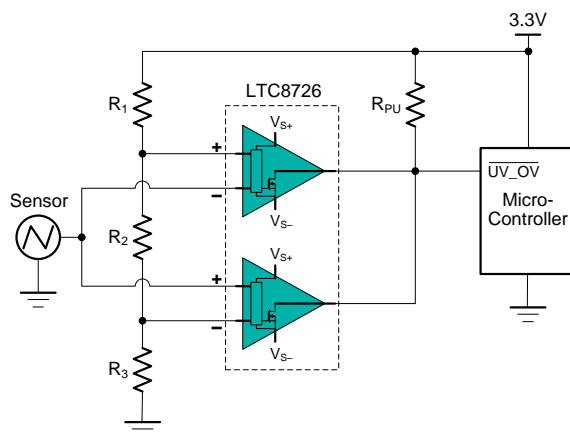

Figure 6. Window Comparator
Window comparators are commonly used to detect undervoltage (UV) and overvoltage (OV) conditions. Figure 6 shows a simple window comparator circuit.
Configure the circuit as shown in Figure 6. Connect V_{S+} to a 3.3-V power supply and V_{S-} to ground. Make R_1 , R_2 and R_3 each 10-M Ω resistors. These three resistors are used to create the positive and negative thresholds for the window comparator (V_{TH+} and V_{TH-}). With each resistor being equal, V_{TH+} is 2.2 V and V_{TH-}